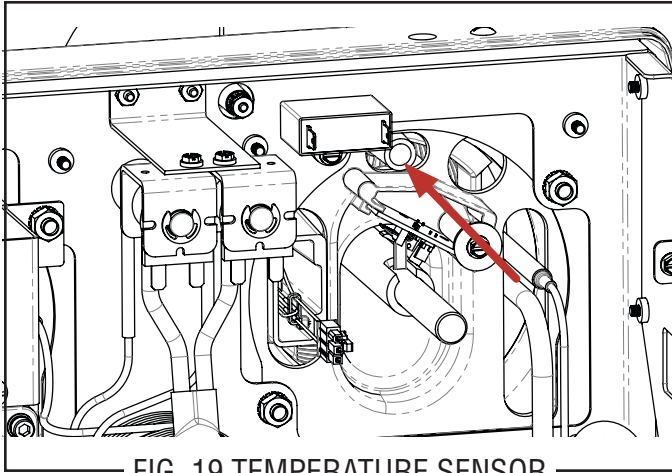

FIG. 19 TEMPERATURE SENSOR
4. Grab temperature sensor wires and begin gently pulling temperature sensor out of housing. See FIG. 19.